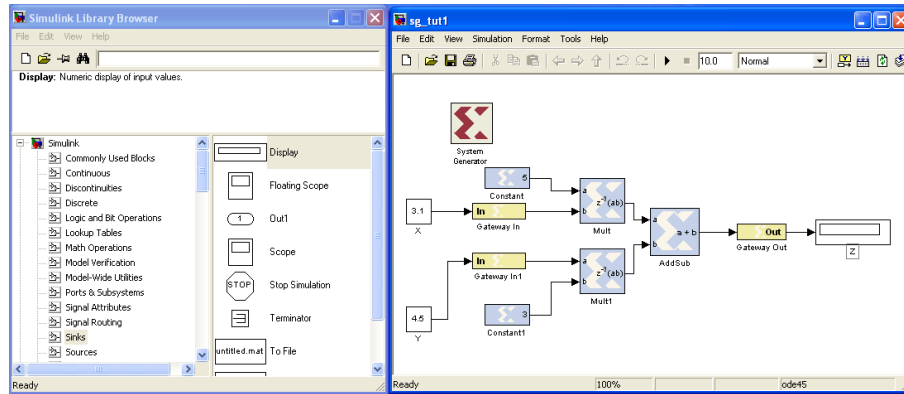

Figure 9: Display the Results in Simulink
- Output: Simulink provides several blocks to display the simulation results of the model under investigation. These blocks can be found in the category: **Simulink**→**Sinks**. From this category select **Display** which is used to display the value of a single output. Connect this block to the output of the system as shown in Figure 9.
Figure 9 shows the complete model ready for simulation. Save your model to the file **sg\_tut\_1.mdl** by selecting **File**→**Save** in the model window.